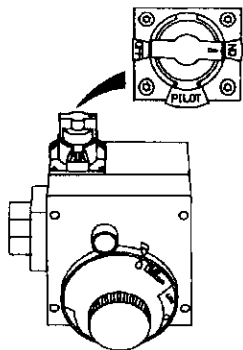

Figure 8
11. At arms length away, turn gas control knob counter-clockwise (↺) to the full "ON" position. **Warning do not use gas control knob to regulate gas flow.** (Figure 8, page 19)